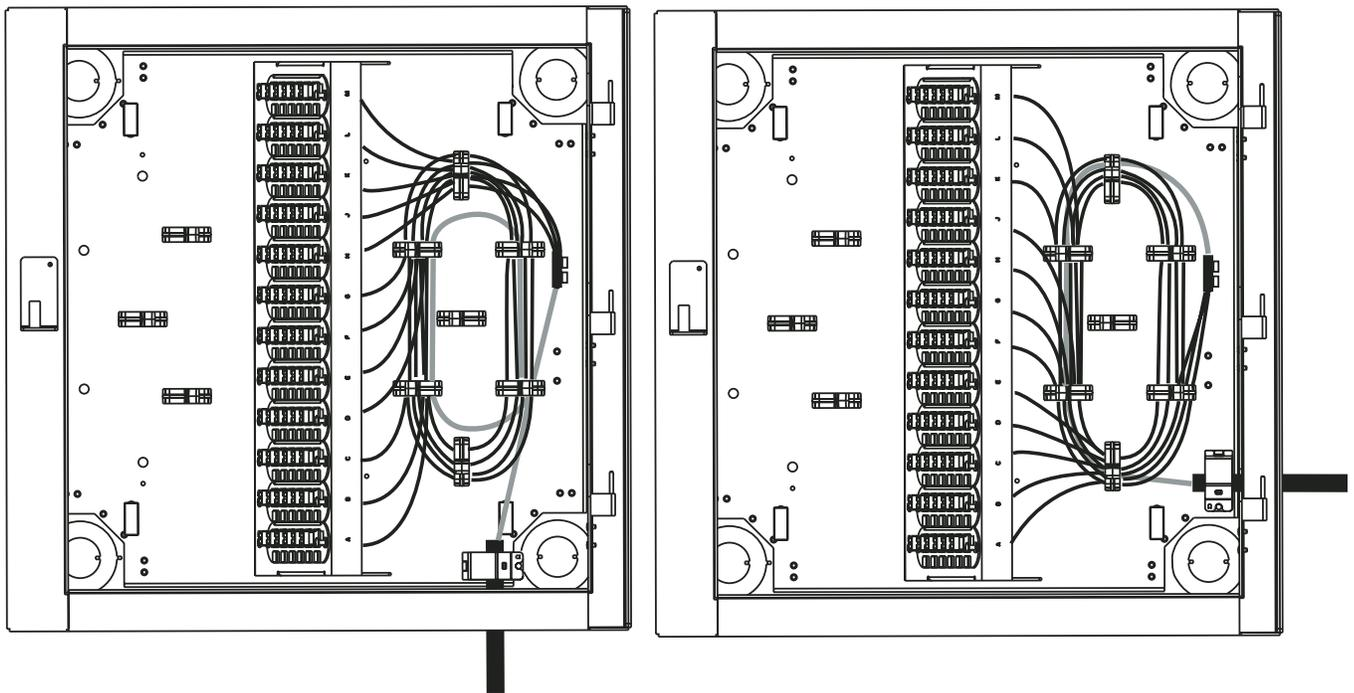

Figure 12
**10.6** Route the connectorized fan-out tubing around the guides and plug connectors into the connector panel (Figure 12). Refer to the connector care instructions in Section 9.3 to avoid damaging the connectors during installation.